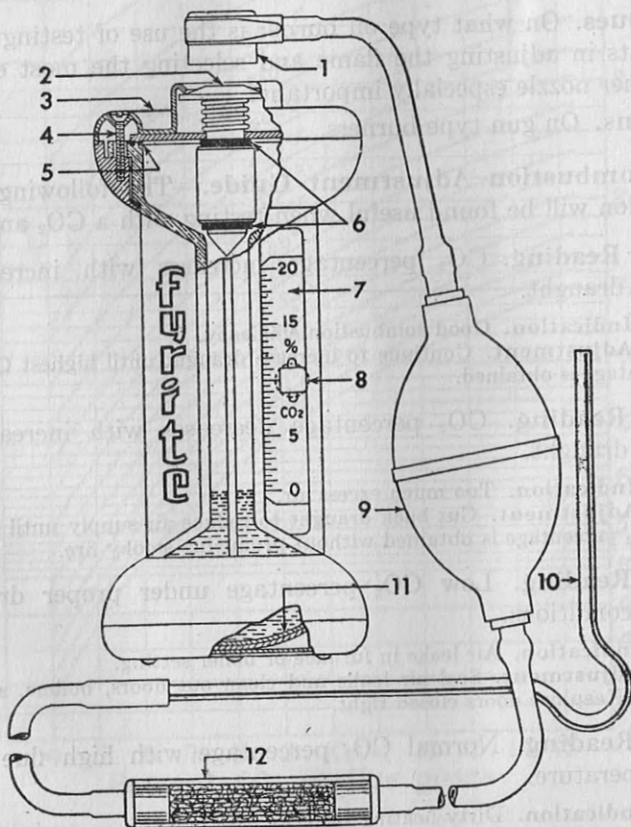

FIG. 5—CO₂ analyzer—Operating instructions are given in the accompanying text.
*NOTE.—Numbers refer to fig. 5.
NOTE.—In figs. A to J, the numerals refer to fig. 5.